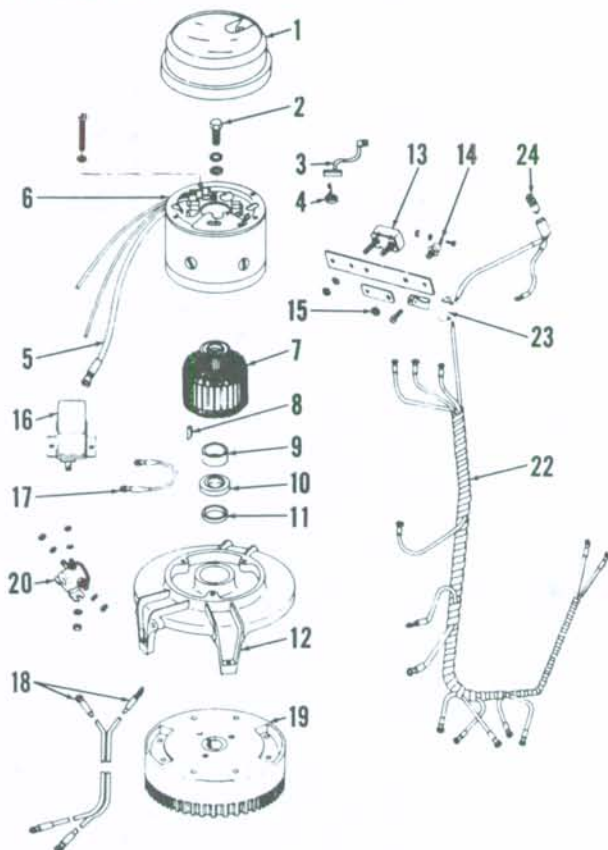

Fig. C2-11—Exploded view of electric starter-generator assembly for 9 hp "Autoelectric" models.
The combination starter and generator unit shown in Fig. C2-11 is used on "Auto-electric" 9.2 hp motors. The armature (7) is mounted directly on upper end of crankshaft. The 12 volt battery should be connected with negative terminal grounded. The positive terminal should be connected to the red battery cable (18). If battery is connected with wrong terminal grounded or if motor is operated without battery, the rectifier (14) or armature (7) may be damaged. Circuit breaker (13) will normally protect the electric components.